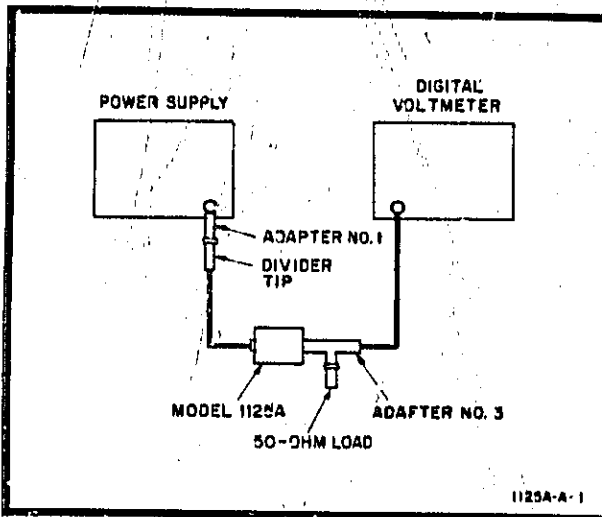

Figure 3. DC Gain and Dynamic Range Check Test Setup
a. Connect equipment as shown in figure 3 using X10 divider tip.